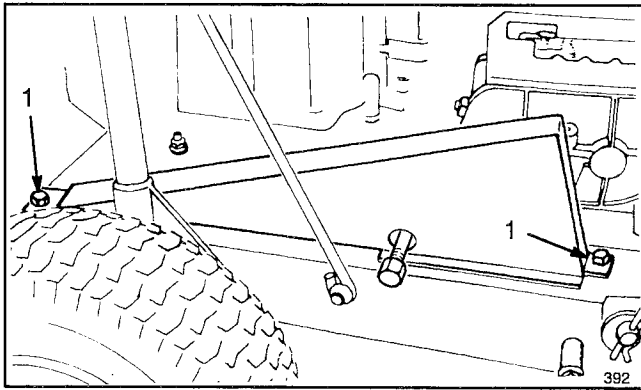

Figure 21
1. Remove two screws securing chain cover to rider chassis and lift off chain cover (Fig. 21).